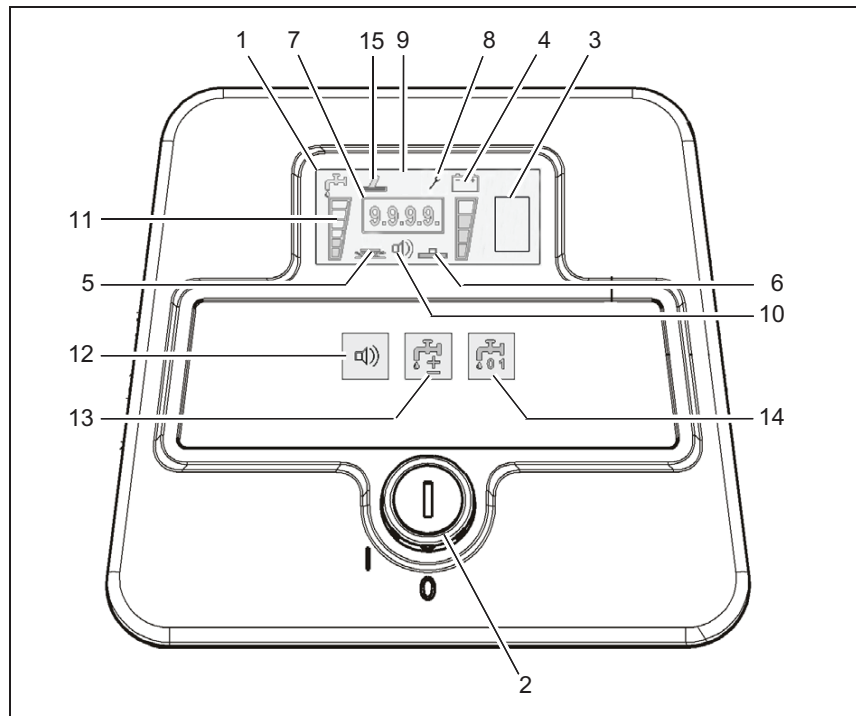

Fig.4
3. Switch on clear water supply by means of tip-switch (Fig. 4/14).
4. Adjust clear water amount by means of tip-switch (Fig. 4/13).
Display (Fig. 4/1)
Battery charge indication (Fig. 4/3)
LDS indicator (Fig. 4/4)
Symbol brush drive (Fig. 4/5)
Symbol suction turbine drive (Fig. 4/6)
Hourmeter (Fig. 4/7)
Service indicator (Fig. 4/8)
free (Fig. 4/9)
(Fig. 4/10)
Clear water dosage symbol (Fig. 4/11)
Silence Kit tip-switch (optional) (Fig. 4/12)
Clear water dosage tip-switch (Fig. 4/13)
Clear water supply ON/OFF tip-switch (Fig. 4/14)
(Fig. 4/15)